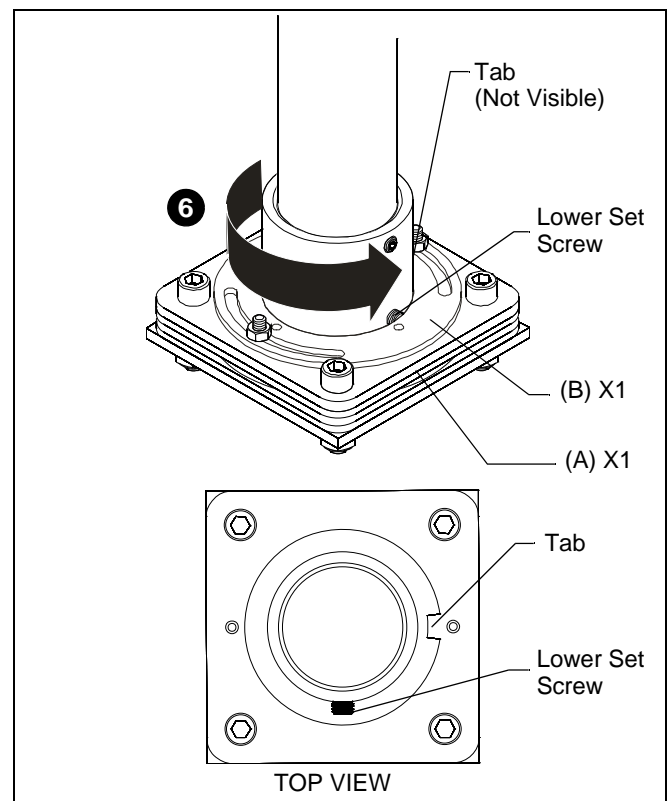

Figure 3
6. Rotate the bottom of Swivel Adapter (A) until middle set screw in swivel adapter (A) makes contact with tab in stop plate (B). (See Figure 3)